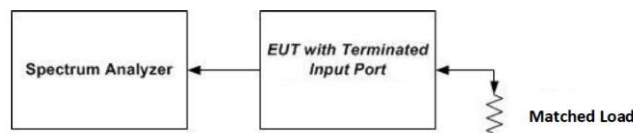
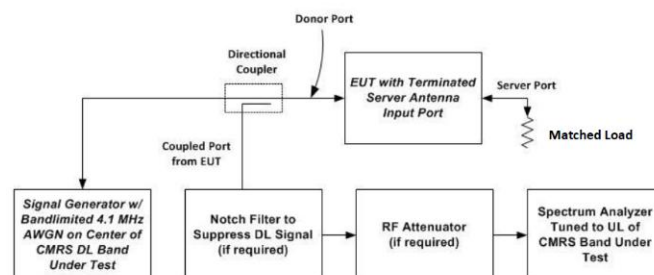

Figure 3 – Noise limit test setup
Figure 4 – Test setup for uplink noise power measurement in the presence of a downlink signal
- a) Connect the EUT to the test equipment as shown in Figure 3. Begin with the uplink output (donor) port connected to the spectrum analyzer. When measuring downlink noise, connect the downlink output (server) port to the spectrum analyzer.
- h) Connect the EUT to the test equipment as shown in Figure 4 for uplink noise power measurement in the presence a downlink signal. Affirm the coupled path of the RF coupler is connected to the spectrum analyzer.
- m) Measure the maximum transmitter noise power level while varying the downlink signal generator output level from -90 dBm to -20 dBm , as measured at the input port (i.e., downlink signal level at the booster donor port node of Figure 4), in 1 dB steps inside the RSSI-dependent region, and in 10 dB steps outside the RSSI-dependent region. Report the six values closest to the limit, with at least two points within the RSSI-dependent region of the limit. See Appendix D for noise limits graphs.
NOTE—Some signal boosters will require a signal generator input because they will not operate unless a signal is received at the input terminals. If this is the case, for the setups shown in Figure 3 and Figure 4 connect a second signal generator at the server port, then cycle the RF output of the second signal generator to simulate this function.
Variable uplink noise timing is to be measured as follows, using the test setup shown in Figure 4.
- a. Connect the EUT to the test equipment as shown in Figure 3 with the uplink output (donor) port connected to the spectrum analyzer.